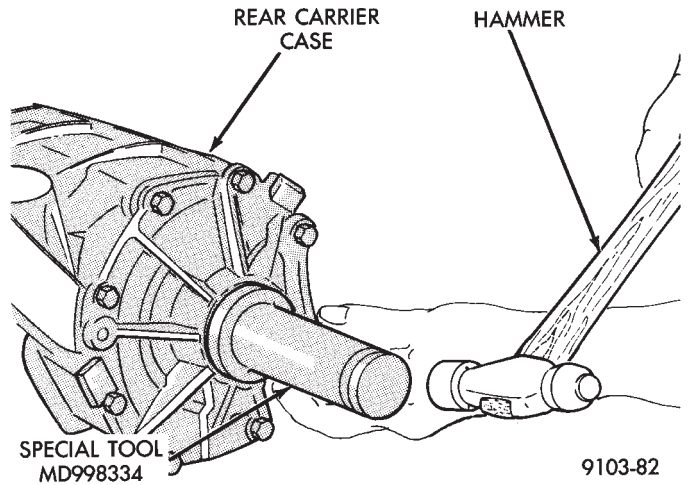

Fig. 6 Installing Oil Seal
- (1) Clean and inspect shaft and seal area.
- (2) Install oil seal with special tool MD998334 (Fig. 6).